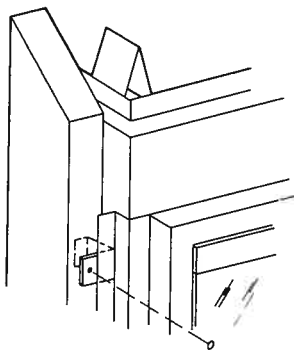

Figure 7
Step 3. Position the appliance into prepared framing, nailing with 6d nails through the nailing flange holes (Figure 7).